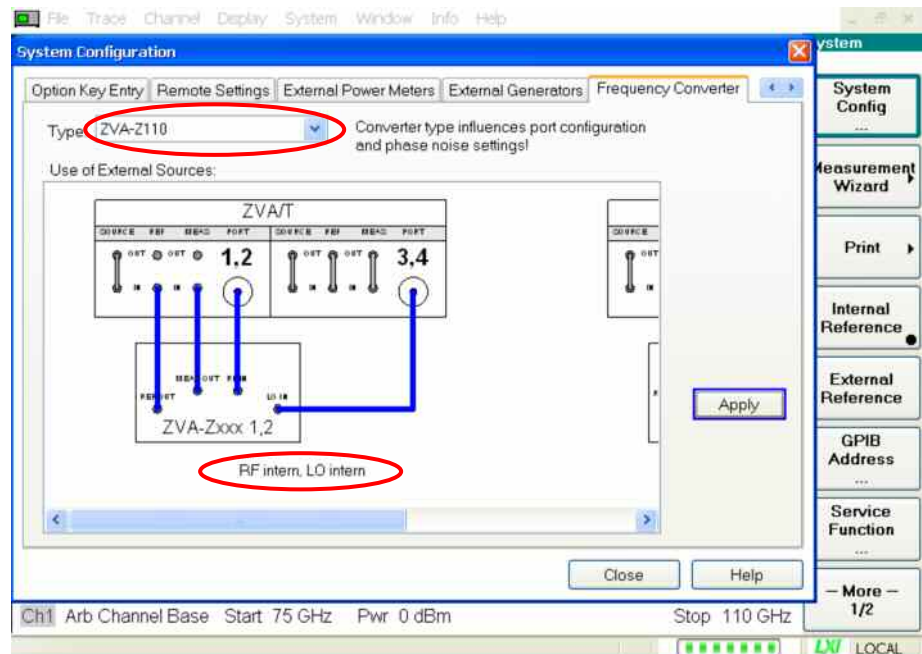

Fig. 4.2: Configuring the converters on the R&S® ZVA
The network analyzer is now configured for operation with the converters. This becomes first obvious by the stimulus axis at the bottom of Fig. 4.2 changing to the range of 75 GHz to 110 GHz. Other settings are influenced as well, for example the test port type (important for calibration). The basic configuration thus created will be restored after a preset. The parameters have to be altered to the needs of the present measurement task as follows:
The converters are configured in the *System Config* dialog using the *Frequency Converter* tab (cf. page 7, Fig. 4.2). Select the converter type (ZVA-Z110 in this case), and then the cabling scheme (internal RF, external LO (*RF intern*, *LO extern*) in this case). Confirm the setting with *Apply*.
- Do not operate the converters above their maximum permissible input power otherwise they may be damaged. Therefore, prior to making the RF and LO connections to the converters, make sure that their maximum specified input power *is* not exceeded. Prior to connecting the converters, you should always select the correct converter type and cabling scheme in the *Frequency Converter* configuration dialog (see Fig. 4.2), and activate the setting with *Apply*.